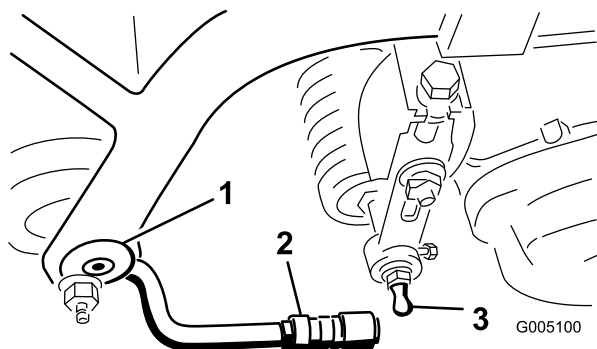

Figure 8
2. Mount a washer and ball stud to each end of the front roller on the cutting units (Figure 8).
4. Slide the sleeve back on the ball joint and rotate the pull arm down so the socket fits over the ball stud. Release the sleeve so it slides over the stud and locks the assemblies together (Figure 8).